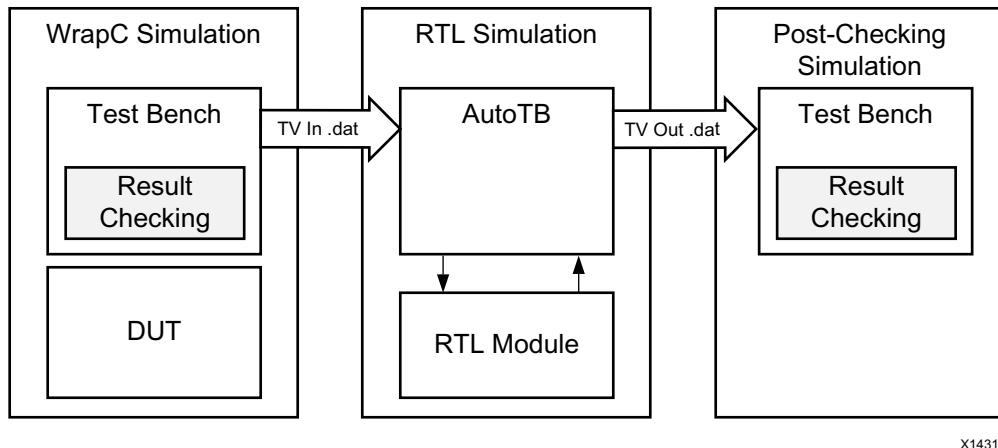

Figure 1-71: RTL Verification Flow
C/RTL co-simulation uses the C test bench to automatically verify the RTL design. The verification process consists of three phases, shown in Figure 1-71.
- Reduce Disk Space: The flow shown Figure 1-71 in saves the results for all transactions before executing RTL simulation. In some cases, this can result in large data files. The `reduce_dkspace` option can be used to execute one transaction at a time and reduce the amount of disk space required for the file. If the function is executed N times in the C test bench, the `reduce_dkspace` option ensure N separate RTL simulations are performed. This causes the simulation to run slower.